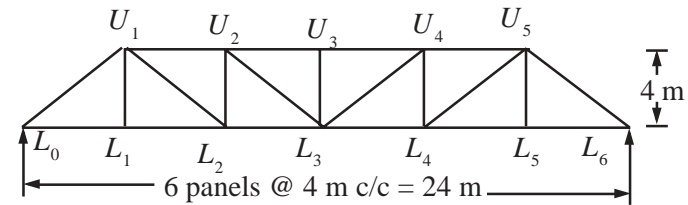

Fig.4.1
- (b) An open web girder bridge consists to two Pratt trusses of the type shown in the Fig. 4.1. The span of the truss is 24 m c/c of bearings. The bridge supports an equivalent uniformly distributed live load of 175 kN per metre run. The dead load transmitted to each truss inclusive of self weight is 15 kN/m. Design the members  $U_4L_3$ . Assume the impact factor to be 15%.